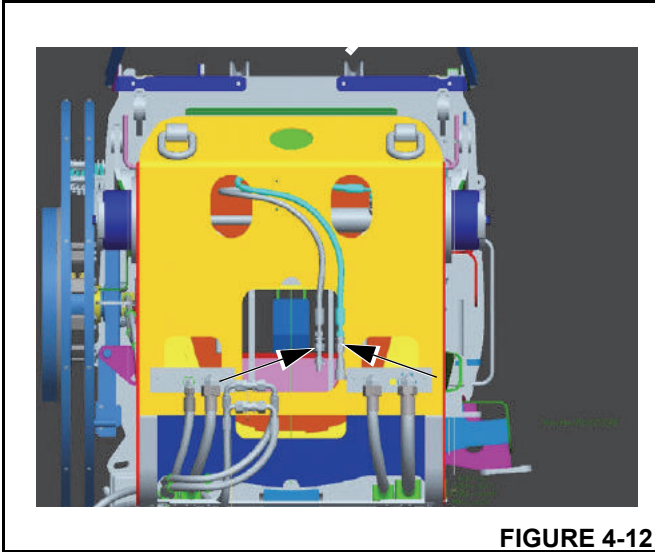

FIGURE 4-12
- 24. Disconnect hoses from counterweight pin cylinders (Figure 4-11) and connect to boom pin cylinder. Hoses from the boom pivot cylinder are accessible at the back of the boom (Figure 4-12).